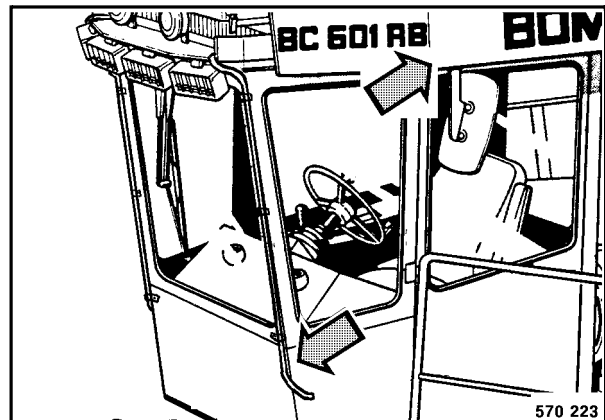

Fig. 6
- Keep the drain tube (Fig. 6) for drainage of the roof empty.